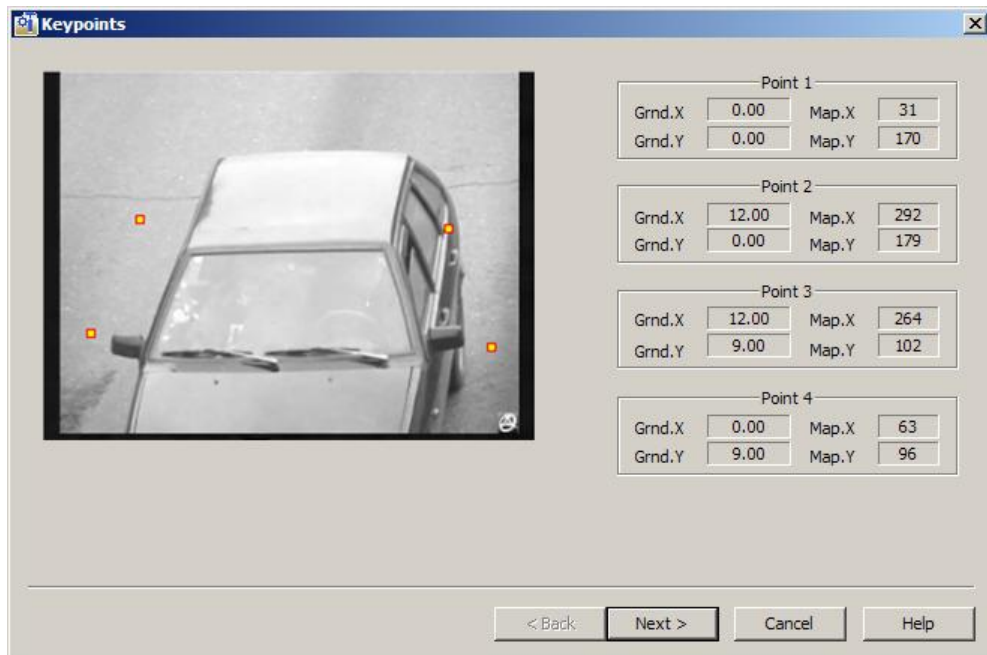

Fig. 7.4-6 Selecting the keypoints
5. In the Keypoints window, set the keypoints, signifying the markings (see Fig. 7.4-6).
6. To go to the following step of setting press the Next button (see Fig. 7.4-6).